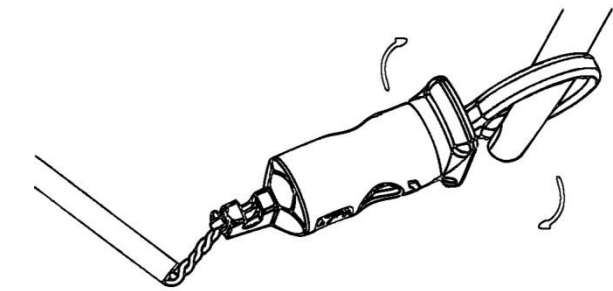

Figure 5
3. Twirl the tool around a finger using the finger loop to untwist the twisted wire pair, as shown in Figure 5.